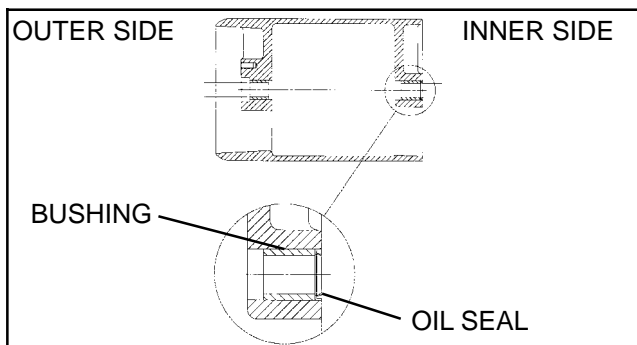

Figure 28
4. Install outer bushing into the drum (Fig. 28 and 29).